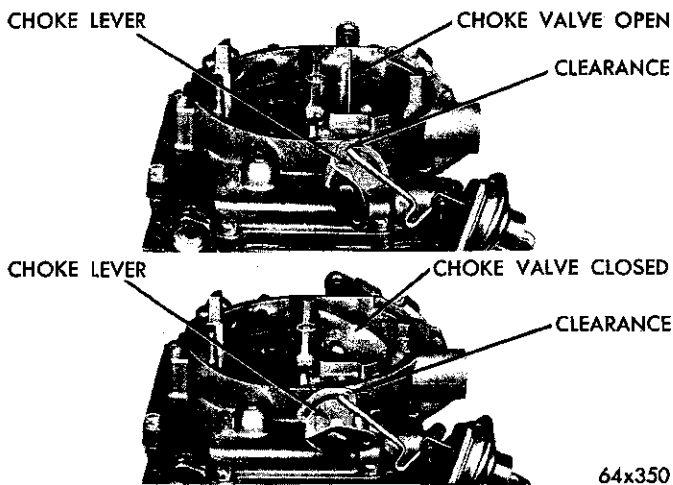

Fig. 16—Choke Operating Link Clearances
(8) With no vacuum applied to the diaphragm, some clearance should exist between the choke operating link and the choke lever slot, in both the open and closed choke valve positions, as shown in Figure 16.